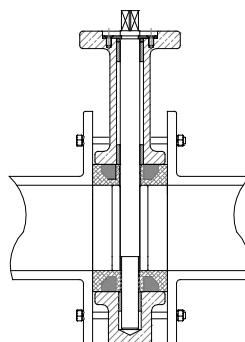

Fig. 2
- Check that the flange covers the area of the liner. Afterwards tighten the bolt on the flange by hand. (Fig. 2)